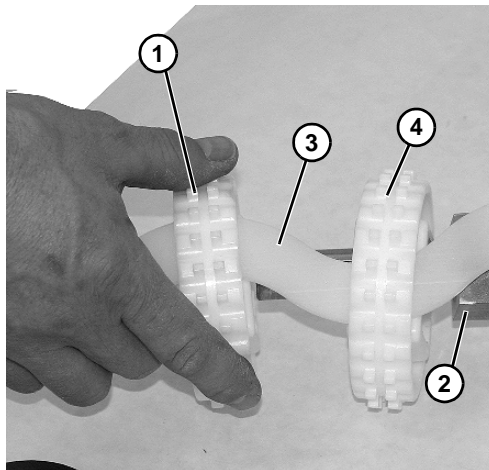
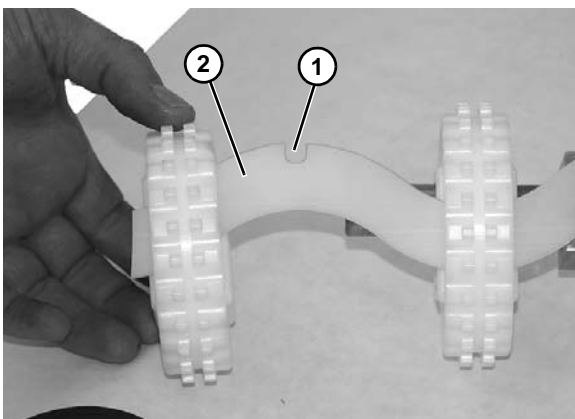

Figure 57
Figure 58
14. Slide entire sprocket assembly slightly outward, and remove the first sprocket (**Figure 57, item 1**) off the drive spindle (**Figure 57, item 2**) and alignment bar (**Figure 57, item 3**). Inspect and replace if worn.
15. Remove remaining sprockets (**Figure 57, item 4**) off the alignment bar as you slide entire assembly off the drive spindle.
17. Install second sprocket and subsequent sprockets (**Figure 57, item 4**) one by one, while sliding entire assembly onto alignment bar (**Figure 57, item 3**) and spindle (**Figure 57, item 2**), making certain each sprocket is locked into retaining tab (**Figure 58, item 1**) on alignment bar (**Figure 58, item 2**). (Note: Not applicable for High Strength Belts.)